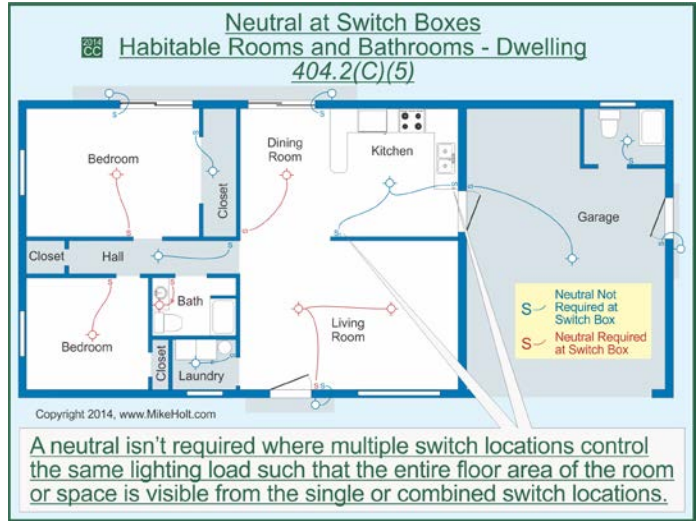
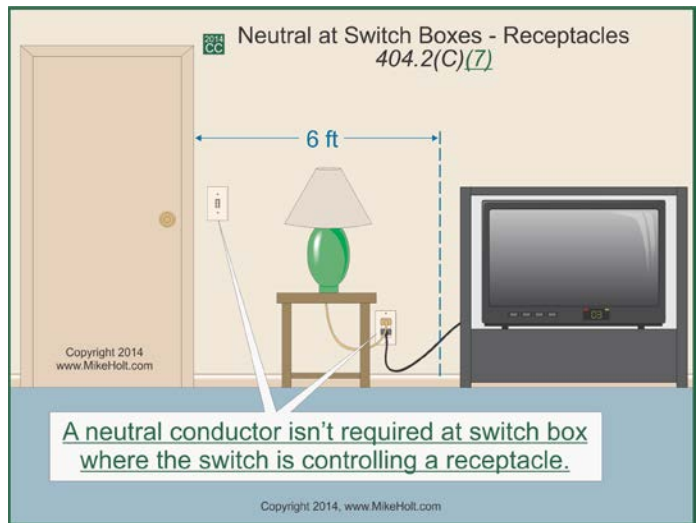

Figure 404-9
Figure 404-10
- (5) For 3-way and 4-way switches, but only if the entire floor area is visible from the switches' location(s). Figure 404-9
- (6) Where the lighting is controlled automatically.
- (7) Switches controlling receptacles. Figure 404-10